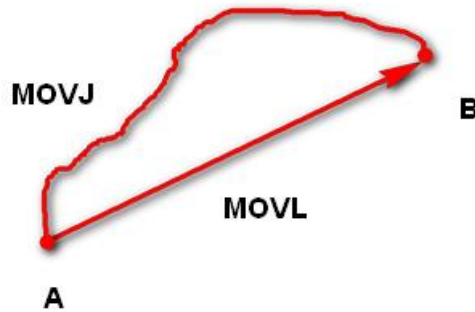

Figure 1.1 MOVL/MOVJ mode
- **MOVJ**: Joint movement. From point A to point B, each joint will run from initial angle to its target angle, regardless of the trajectory, as shown in Figure 1.1.
- **MOVL**: Rectilinear movement. The joints will perform a straight line trajectory from point A to point B, as shown in Figure 1.1.